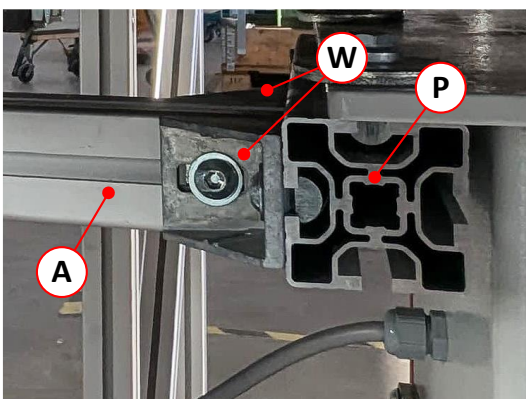

Figure 22: Mount connecting profiles (A) on the front and back of the profile (P)
When everything is aligned correctly, tighten all the lock nuts on the levelling feet and the M8 Allen screws on the spacer profiles (Z) and connecting profiles (A), refer to ⇒ Figure 21 ⇒ Figure 22.